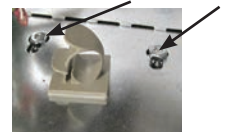

Figure 10
8. Slide the module assembly towards the rear of component box until the nuts drop through the keyholes (see Figure 10).